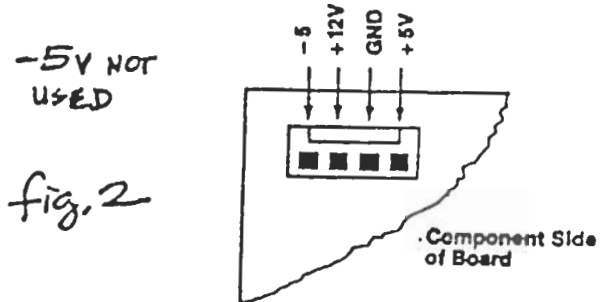
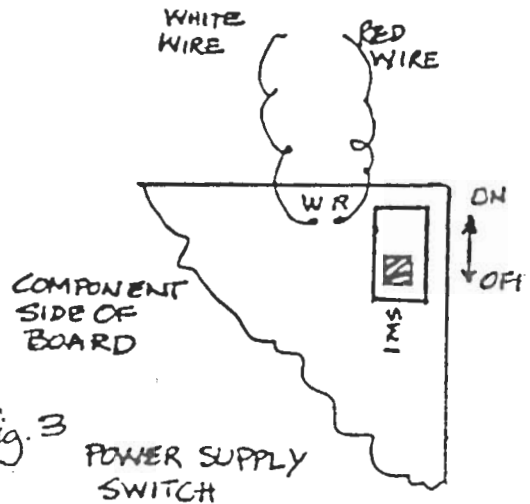

fig. 2
fig. 3
Step 2. - Double check your connections and then plug in your supply to an outlet to test it out. Be sure to turn on the power supply switch located on the board (see fig. 3). Using a suitable volt meter and fig. 2, check that you get the indicated output voltages when you test the +5 and +12 pins and ground. The voltages MUST be pretty close. DO NOT use the power supply if you find it is off by 1/2 volt or more, especially on the +5 volt pin. If the voltages are way off, I suggest you return the board and get another one.